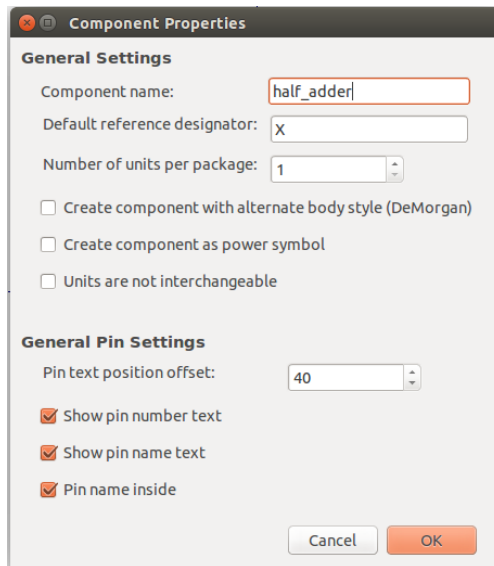

Figure 8.7: Creating New Component
3. Click on create a new component from the top toolbar with reference X as shown in Fig. 8.7. The reference X is for subckt, D is for diode, Q is for transistors, J is for FET. The user needs to choose the appropriate reference based on the library in which the model is to be added.